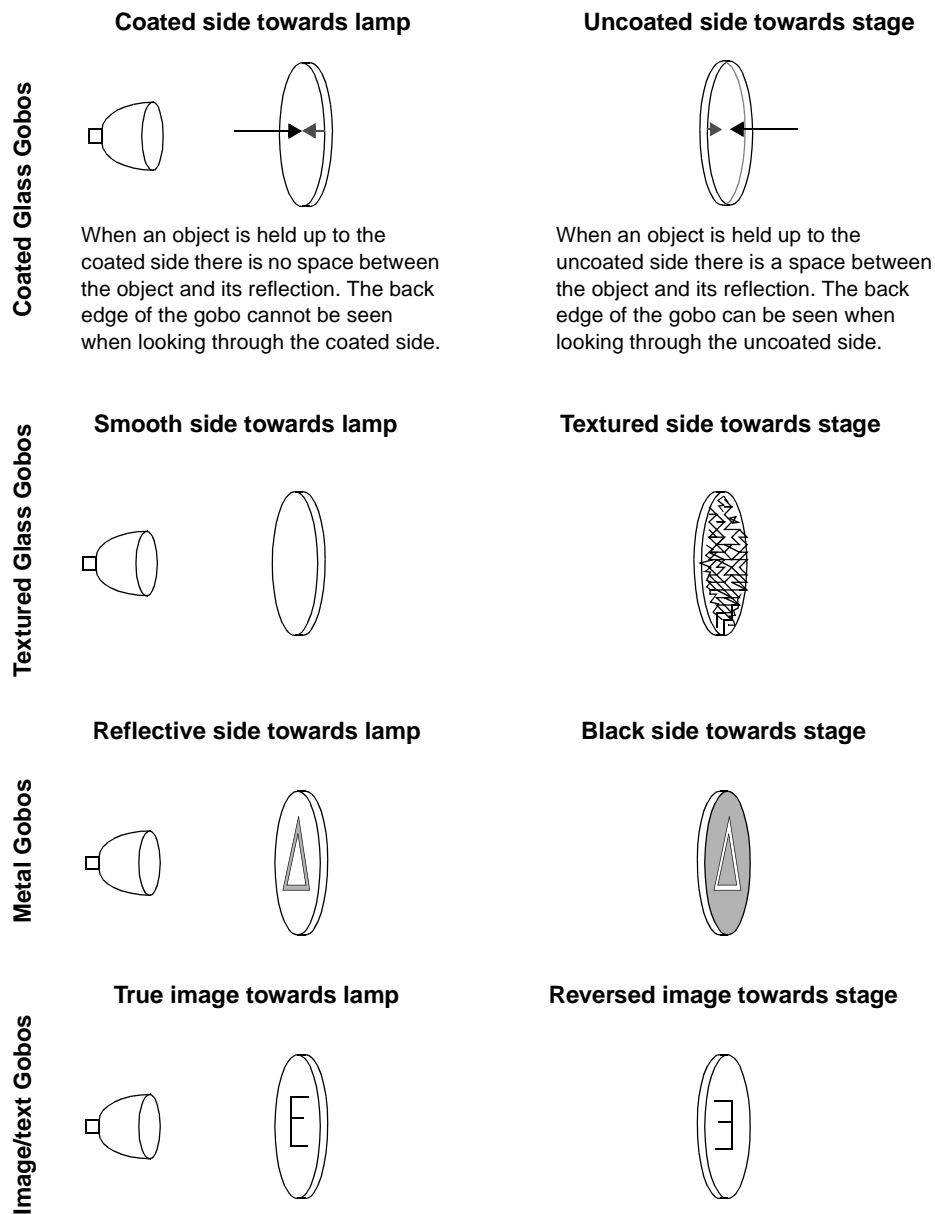

Figure 7: Gobo orientation
3. Insert the new gobo. See Figure 7 for proper orientation.
Figure 7 shows the correct orientation for different gobo types. When in doubt, install gobos with the more reflective side towards the lamp.